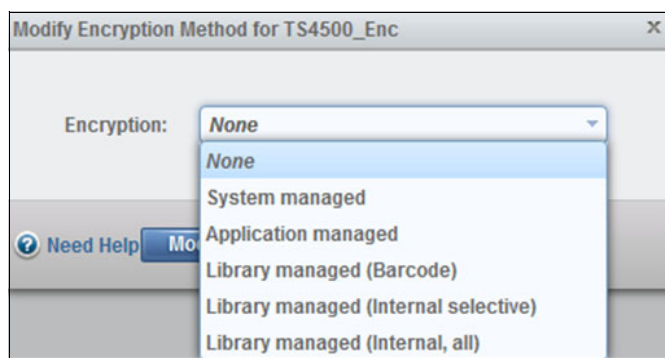

Figure 3-2 Modify Encryption Method window
3. Choose a method from the Encryption menu on the Modify Encryption Method window and click **Modify**, as shown in Figure 3-2.